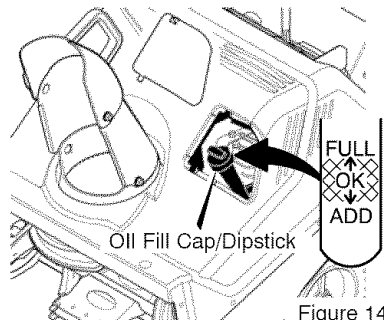
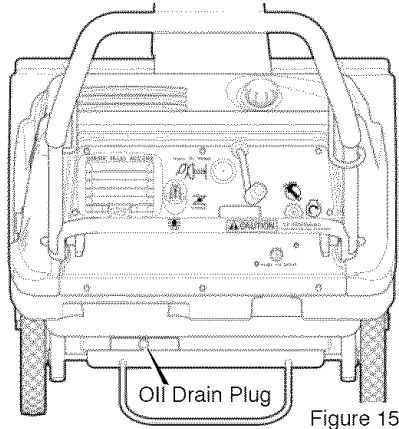

Figure 14
Figure 15
Check the crankcase oil level before starting the engine and after each eight (8) hours of continuous use. See Figure 14. Add S.A.E. 5W30 motor oil as needed. Synthetic 5W30 is acceptable for all temperatures. Tighten fill cap/dipstick securely each time you check the oil level.
2. When the engine is warm, remove the **oil drain plug** (see Figure 15) and the **oil fill cap/dipstick** (see Figure 14). Drain the oil into a suitable container.